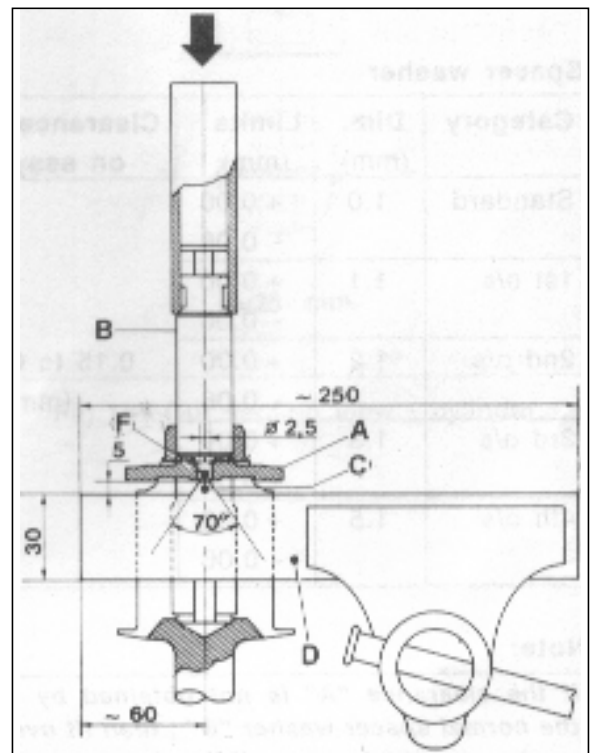

Fig. 152-Side view - drive shaft assy.
Selector spider and gear control rod: (Fig.152)
2. Cut a conic appendix 'C' as illustrated in fig.152 in a flat bar 'D' (thickness 5 mm) and insert the flat bar in a spline of the gear shaft until the appendix 'C' coincides with the end 'F' of the gear control rod to be caulked.
3. Clamp in a vice the flat 'D' bar, (the rod above), as illustrated in fig.152, then tap with a hammer on a tube (inner Ø17.5 mm) put on the rod edge 'B' to caulk the threaded rod end 'F' on the selector spider 'A'.